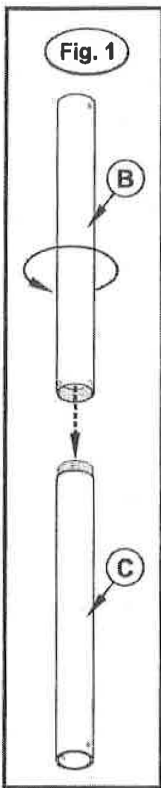
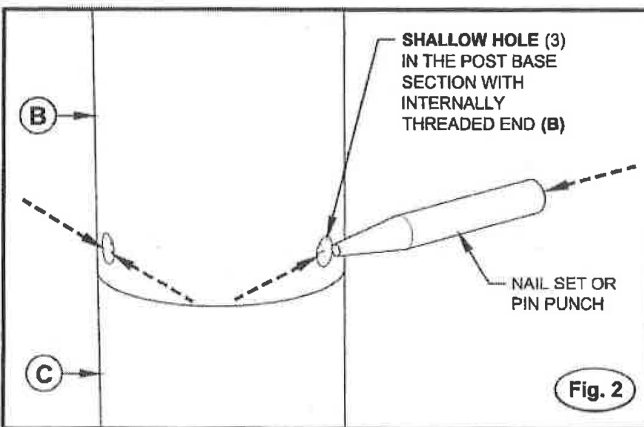

Fig. 1
Fig. 2
- Remove the plastic cap from the Post Base Section with the external threads (C). Screw the (2) threaded Post Base Sections (B & C) together (see Fig. 1).
- For added security and theft prevention there are (3) shallow holes around the outside perimeter of the internally threaded end of the **Part B** Post Base Section of the Post Base. These holes partially expose the threads from the outside and are intended to allow the threads to be deformed to prevent disassembly of the base sections (B & C).
Using a nail set or a pin punch and a hammer, punch into each of the (3) shallow holes in Post Section B from two opposite angles to deform the threads (see Fig. 2). Make sure the threads are thoroughly deformed so the (2) Post Sections (B & C) cannot be unscrewed.